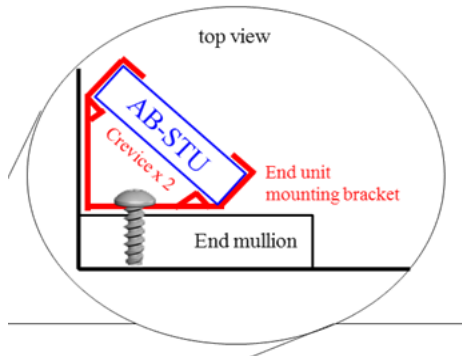

Figure. 3
- Snap SimpleTube Slimm™ to the bracket with lower end first. (as Figure. 3)